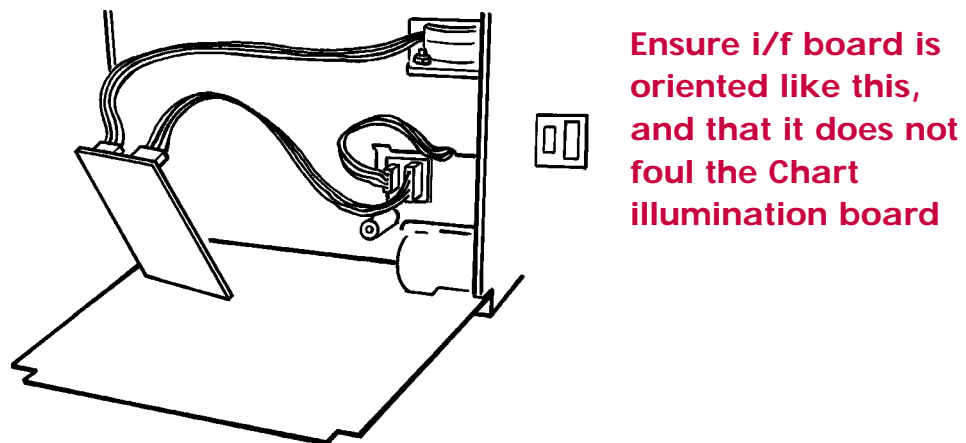

Figure 10 Annotator interface board location and cable routing
21. Take the small square circuit board (interface board) supplied and offer it up to the recorder bulkhead as shown in figure 10, and mark a location for the board at which it will not foul the Chart illumination board when this is refitted. Remove the protective backing from the double-sided sticky-pad on the reverse side of the board and stick the board to the recorder bulkhead, ensuring correct orientation. If you are replacing the control board as well, carry out instructions 6 to 14, then 22 to 24. If, however, you are replacing only the annotator board:
22. Remove the harness from the old annotator board and fit it to the new one. Make the electrical connections as shown in figure 3b and figure 10, then physically attach the board to the chassis using plastic rivets.
23. Refit the Chart Illumination board (if fitted) (omitted from figure 10 for the sake of clarity).